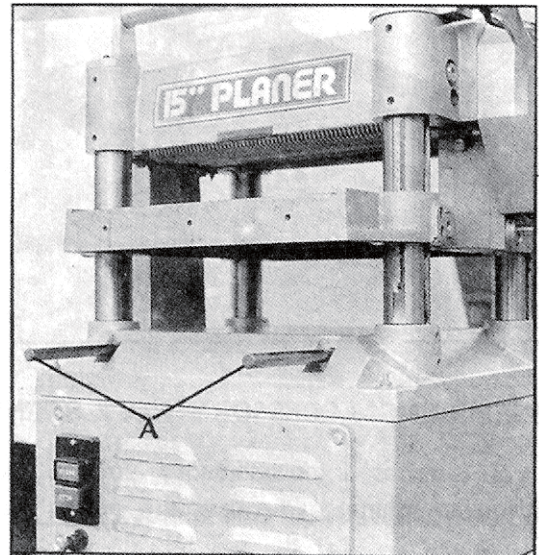

Fig. 1
There are four lifting handles, separately furnished in the front and rear parts of the units base mount. All lifting handles are of hidden type. Pull the handles out for use and push them down otherwise. Two of the lifting handles are as shown in Figure 1 (A).